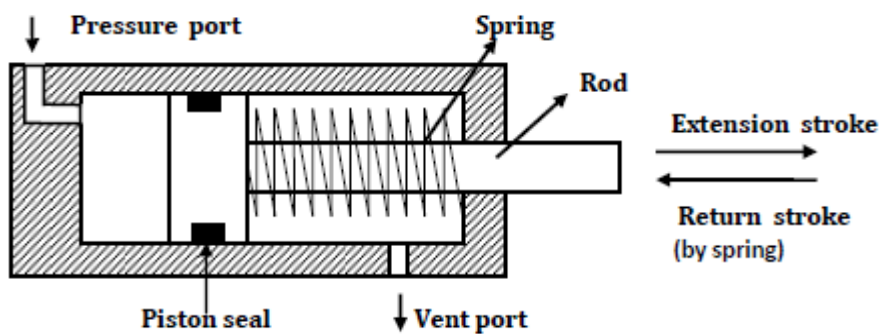

Fig.3.11 - Single-acting cylinders
- A single-acting cylinder is simplest in design and is shown schematically in Fig 3.11. It consists of a piston inside a cylindrical housing called a barrel. On one end of the piston, there is a rod, which can reciprocate. At the opposite end, there is a port for the entrance and exit of oil.